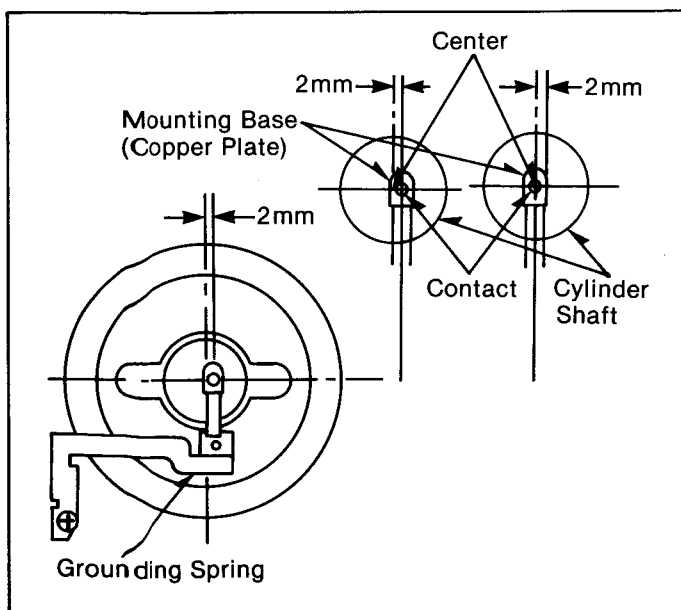

Fig. 5 Confirmation of GND Spring Installation Position
3. After replacing the new DD cylinder unit, check to see if the Grounding Spring is correctly set in a position within 2mm to the right from the center of the cylinder shaft as shown in Fig. 5.